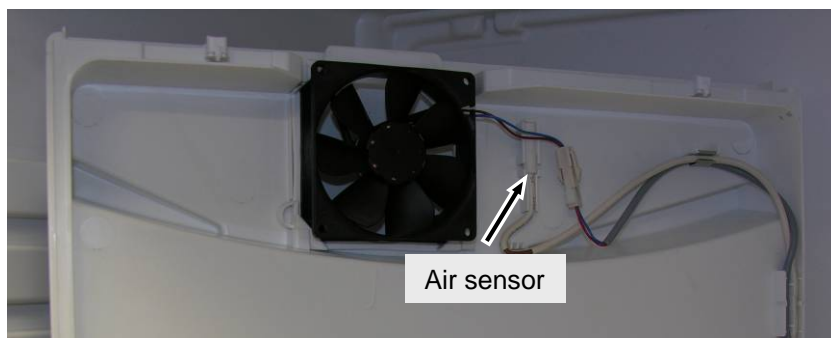

Fig. 5.2.2 / 1
- Using a screwdriver, disengage holding clips at the right and left at the marked location (**Fig. 5.2.1/ 2**) and press in the direction of the separating plate (**Fig. 5.2.2/ 3**). Remove holding clip.